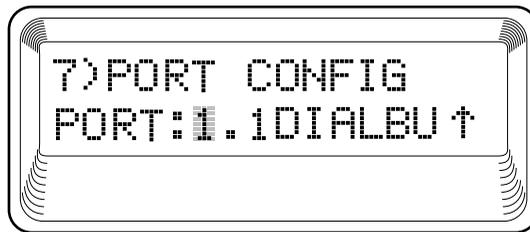

Figure 3-5
To display Figure 3-5 on the TSU 100, starting with the cursor on Main menu item 2)CONFIG, do the following:
1. Press the **Enter** or the number **2** key. This displays the first two Configuration submenu items with the cursor on 1)NETWORK (NI).